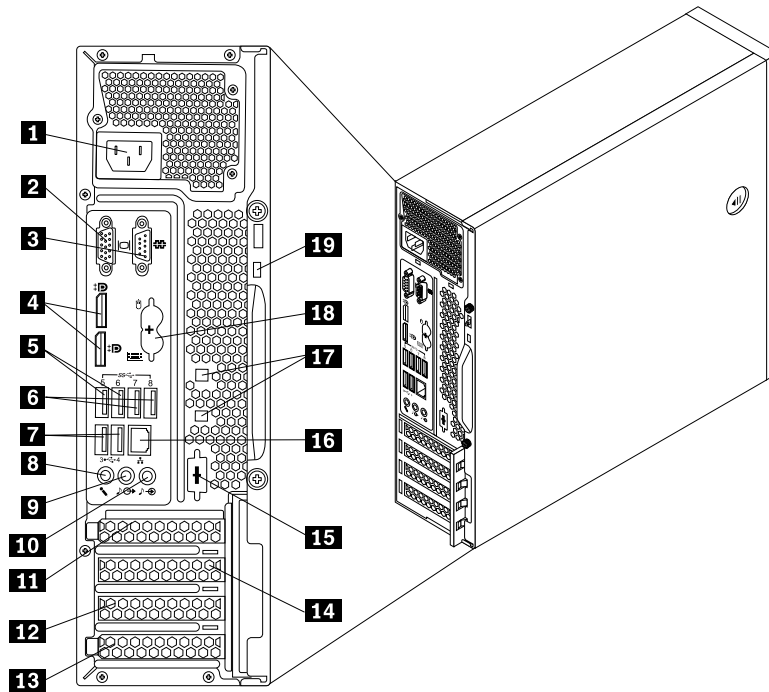

Figure 2. ThinkCentre M93/p rear connector locations
- Figure 2 “ThinkCentre M93/p rear connector locations” on page 11 shows the locations of the connectors on the rear of the ThinkCentre M93/p computer. Some connectors on the rear of your computer are color-coded to help you determine where to connect the cables on your computer.